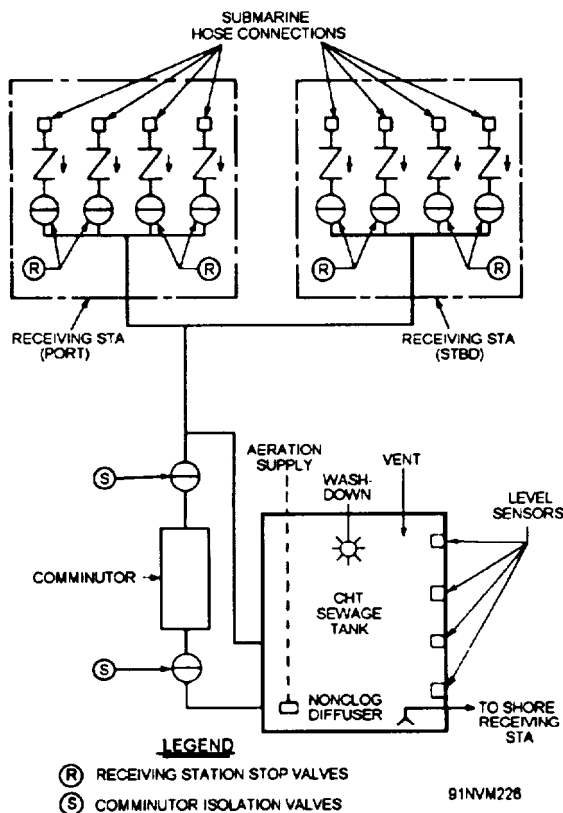

Figure 17-5.—Submarine tender receiving system.
During all tender operations, sewage is transferred from the ships being serviced to receiving stations in the tender. Typical receiving stations in submarine tenders and surface ship tenders are shown in figures 17-5 and 17-6. The tender then transfers the sewage to the receiving facility.
SUBMARINE SEWAGE TRANSFER TO TENDER.—Submarine transfer procedures are similar to surface ship transfer procedures. The exception is that the receiving station stop valves (R) (fig. 17-5) are opened and remain open only during receiving. Submarines must obtain permission from the tender before discharging sewage. When receiving operations have been secured, the tender gives a complete air blow of the hose and piping to minimize hose spillage during disconnect.